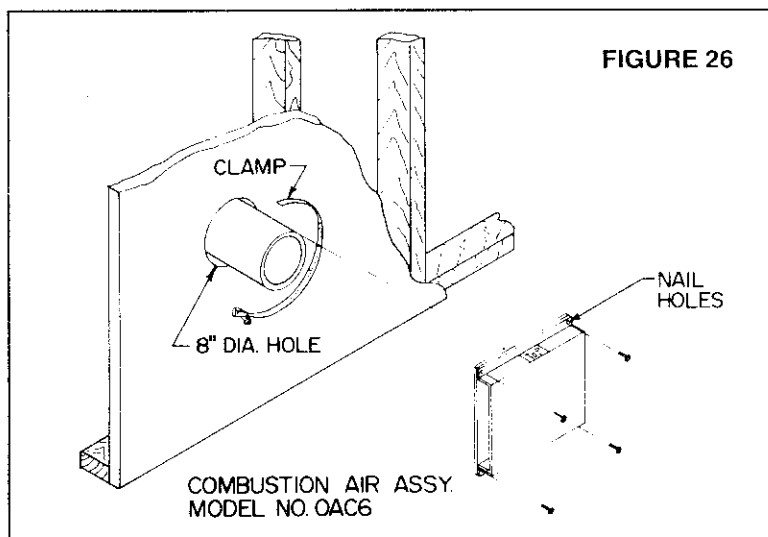

FIGURE 26
3. Cut an 8 inch diameter opening in the outside wall covering where the model OAC6 inlet air box assembly is to be located. (See figure 26.)